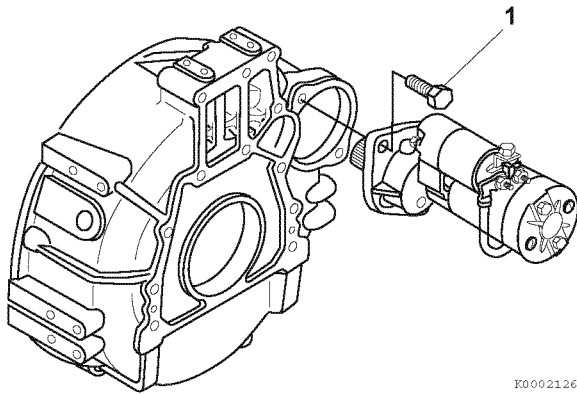

Figure 11-36
2. Reinstall the starter mounting bolts (1, **Figure 11-36**). Tighten the bolts to specification. *See Tightening Torques for Standard Bolts and Nuts on page 4-54.*